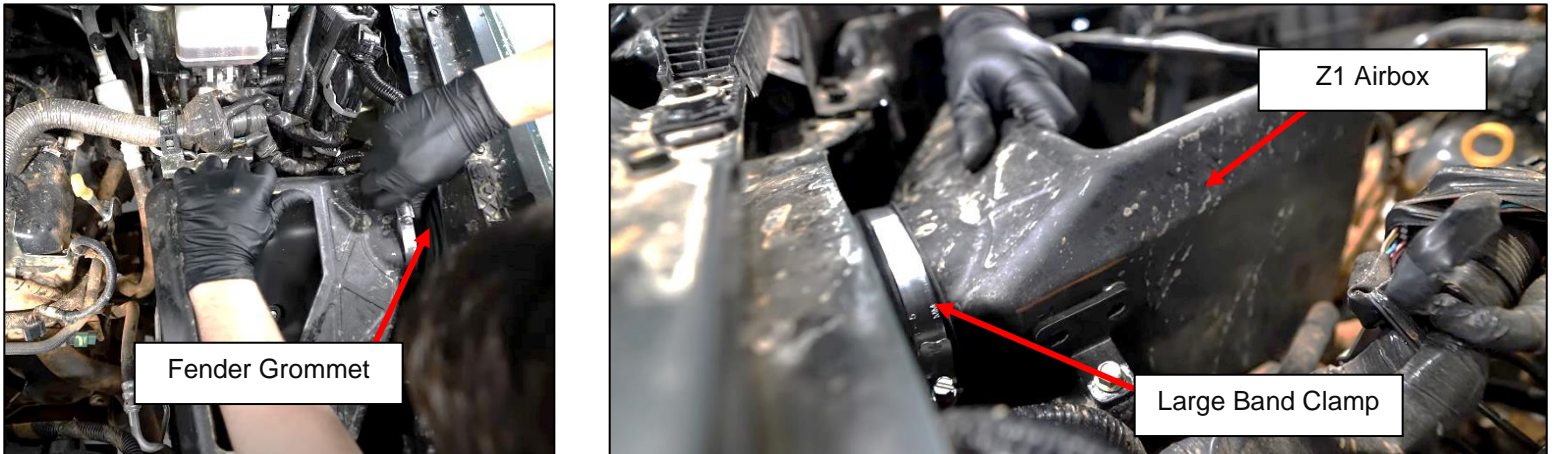

Figure 19
29. Locate your Z1 Airbox and the Large Band Clamp. Place the Large Band Clamp on the Fender Grommet installed in *Step 28*. Reinstall the Z1 Airbox and fit it to the new Fender Grommet as shown. Once positioned, tighten the Large Band Clamp, securing the Airbox in place. *Figure 19*.